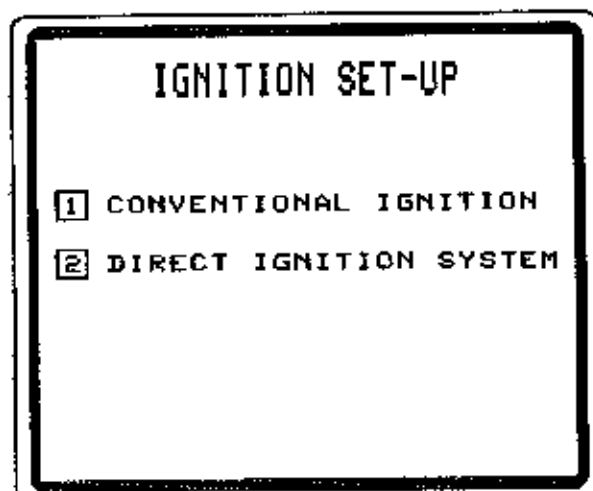

Figure 21
3. The Ignition Set-Up screen will appear (see Figure 21). Press: